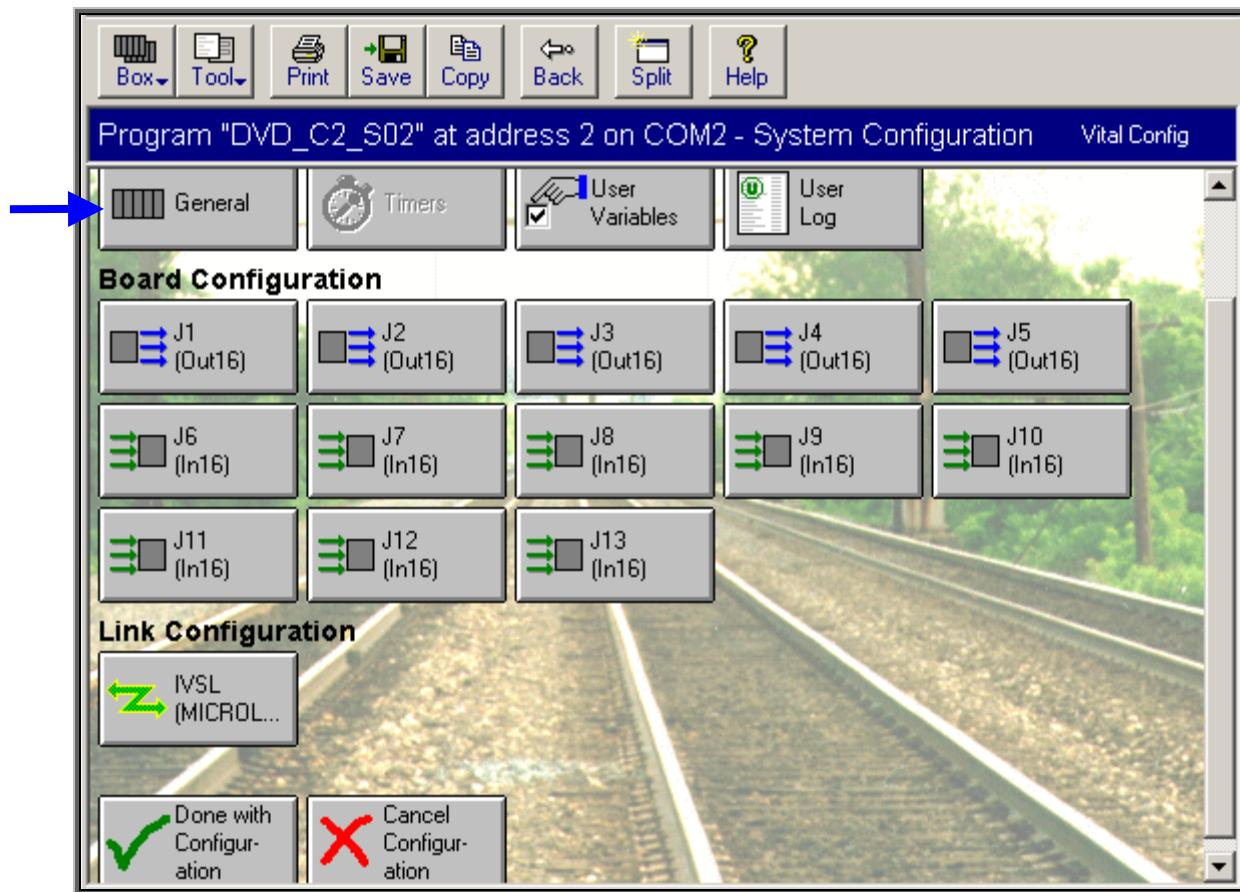

Figure-7.3.7
- ❖ After some time, “System Configuration” selection window appears as shown in Figure-7.3.7.